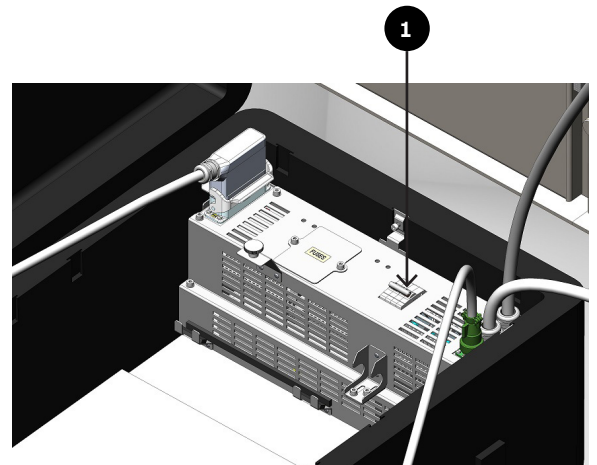

Fig. 12.1
2. Be sure that the main circuit breaker is open, switch on the power supply circuit breaker (fig.12.1 item 1) in the trolley, insert and switch on the key (fig.5 item 9). Wait about 20" until the green light "READY" (fig. 5 item 1) is on. Press at the same time Confirm + Rack in push buttons (fig. 5 items 5-7) if the circuit breaker is in disconnected position or press confirm + rack out push button (fig. 5 items 5-8) if the circuit breaker is in connected position, see tab T2.
3. Check if the protection C.B. (fig. 12.1 item 1) is ON. Switch OFF and ON again.
3. Check if the protection CB (fig. 12.1 item 1) is ON. Switch OFF and ON again.